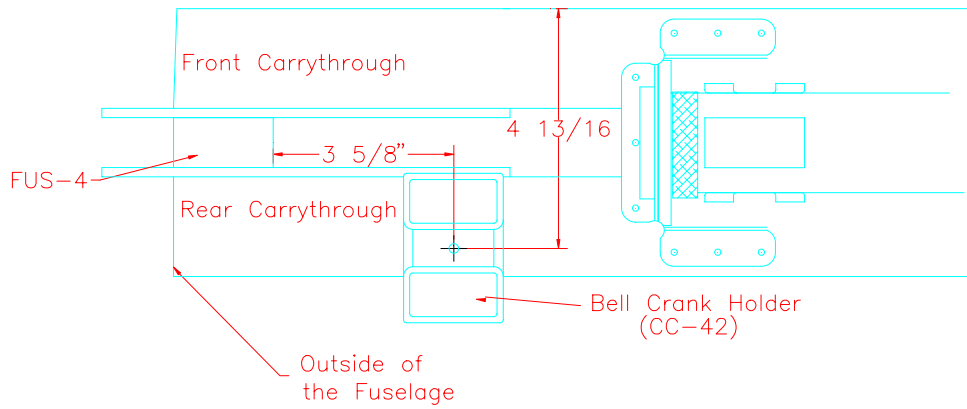

Figure 15.6.1
- 1) Position the bell crank holder (CC-42). Figure 15.6.1.